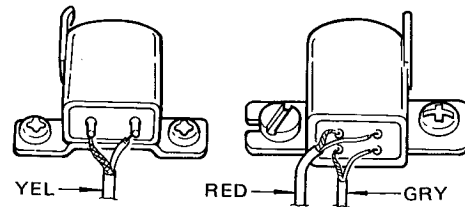

Fig. 13
1. Disconnect the lead wires from the erase head. (The wires must be unsoldered; see Fig. 13.)
1. Disconnect the lead wires from the record/playback head. (The wires must be unsoldered; see Fig. 13.)